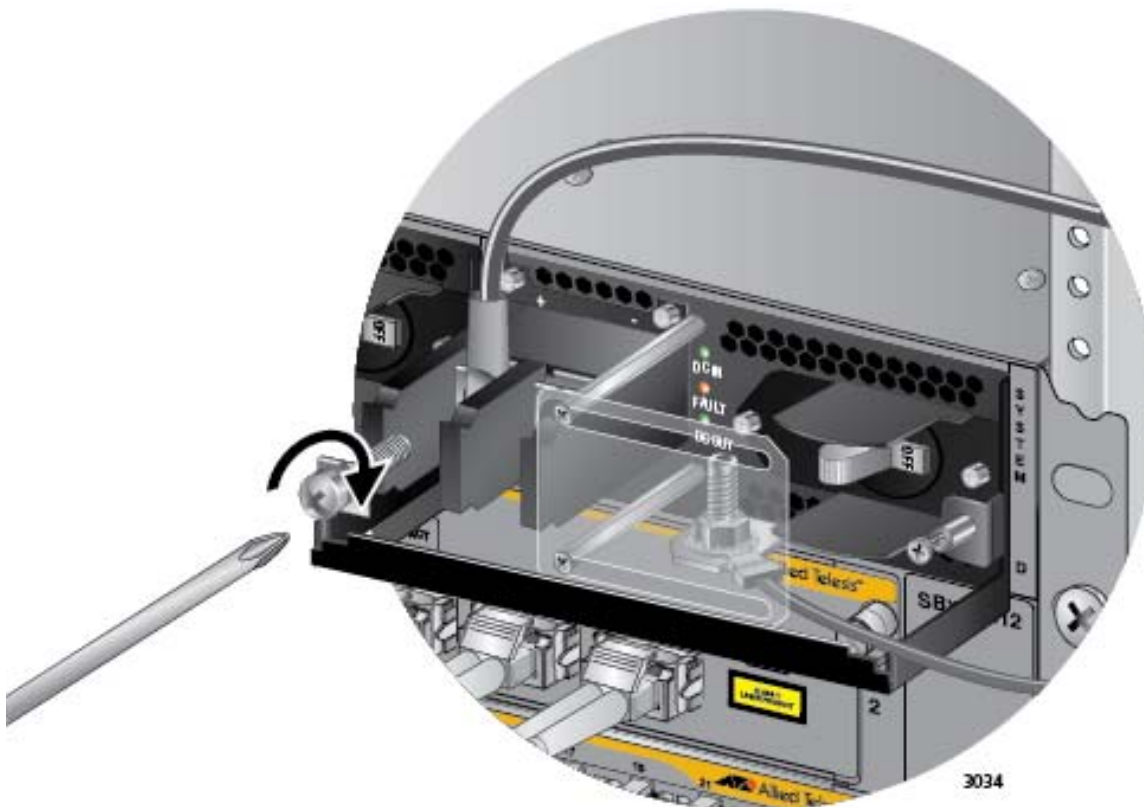

Figure 134. Connecting the Positive (+) Power Wire with a Straight Terminal
6. With a #3 Phillips-head screwdriver, connect the positive (+) power lead wire to the positive terminal on the power supply, with one of the terminal screws removed in the previous step. The positive terminal is on the left. You may attach the terminals with the wires either above or below the terminal block. Figure 134 on page 208 shows the positive wire above the terminal block.